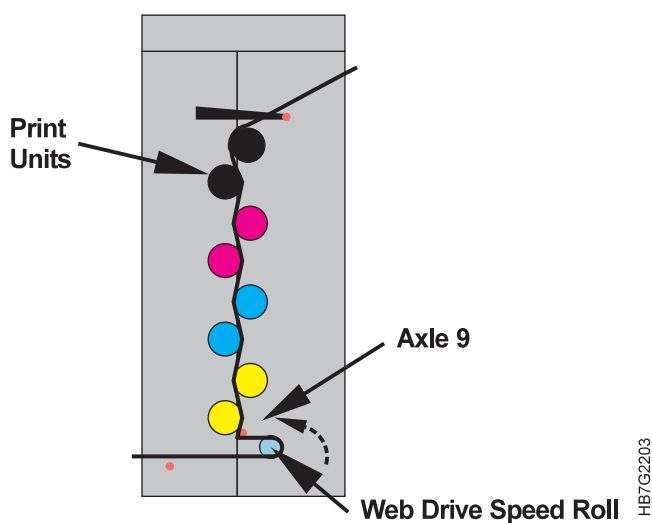

Figure 307. Print Tower Paper Path
- 9 Thread the paper around the speed roll, as shown in Figure 307, in a counterclockwise direction.